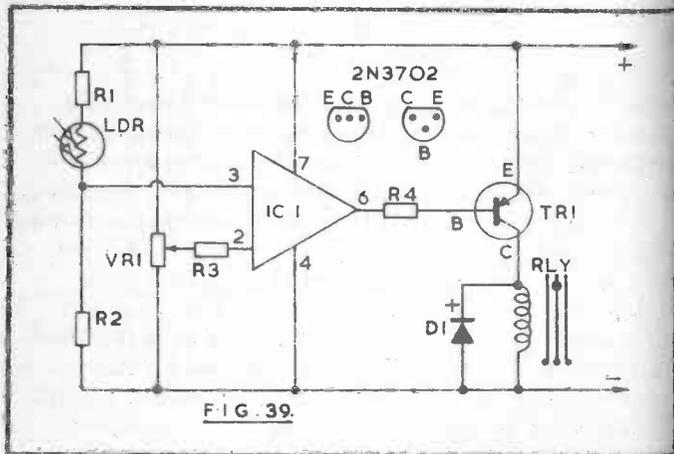

FIG. 39.
The circuit in Figure 39 is arranged so that a drop in illumination operates the relay. It can thus control an emergency light, which is switched on when ordinary lighting fails. Or it may switch on a child's bedroom light, when daylight goes. It can also put on one or more house lights, as darkness comes, which householders may feel is a safeguard or convenience in their absence.
*Components:- Dark Trigger (Figure 39)*